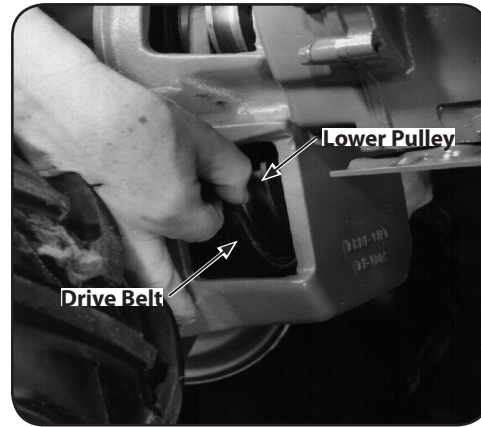

Figure 5-1
3. Use your right hand to move the belt down and away from the lower pulley, in the direction of the engine. See Figure 5-1.